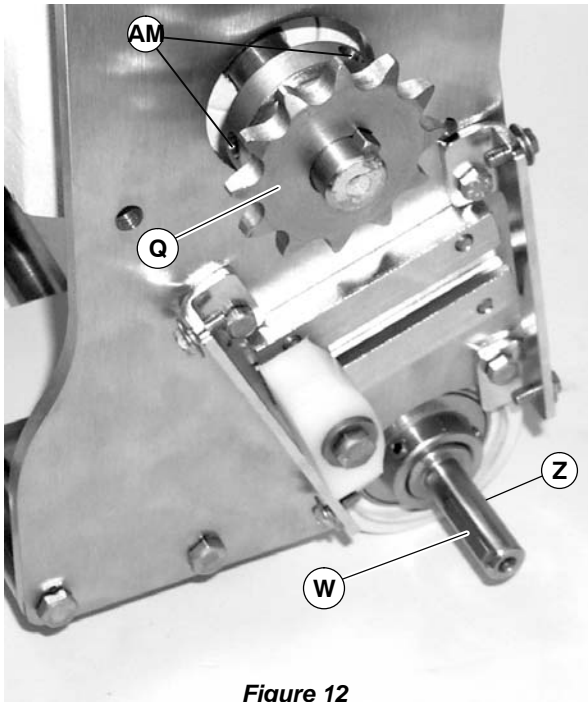

Figure 12
1. Install key (W of Figure 12) into conveyor input shaft (Z).
NOTE: Depending on sprocket sizes, it may be necessary to remove drive sprocket (Q of Figure 12) by loosening two set screws (AM) to install chain and sprockets.